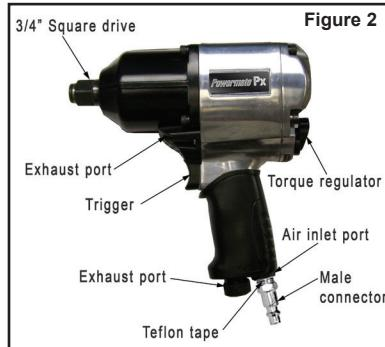

Figure 2
2. Install a 3/8" NPT male connector (not included) into the air inlet port on the tool (see Figure 2). **Note: Use Teflon® Tape on all threaded connections.**